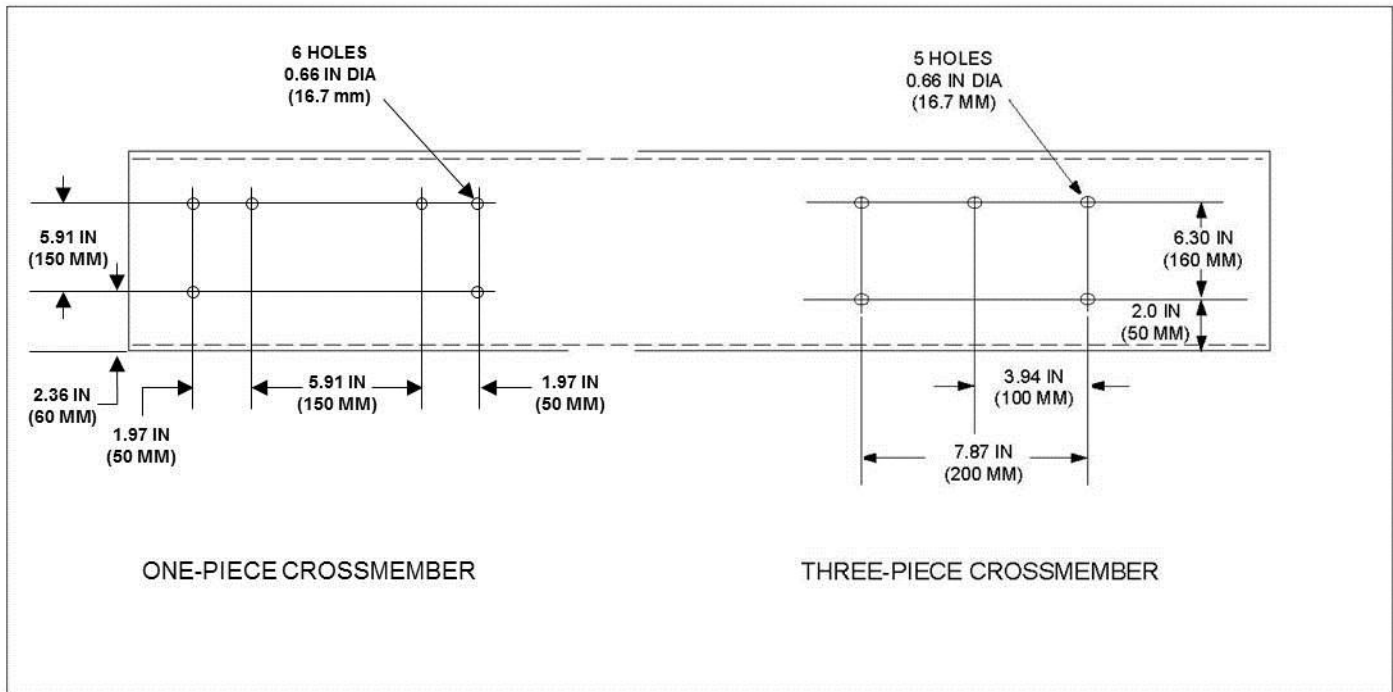
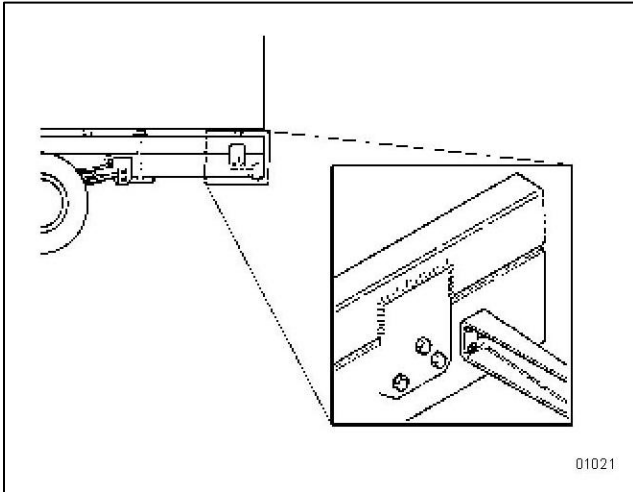
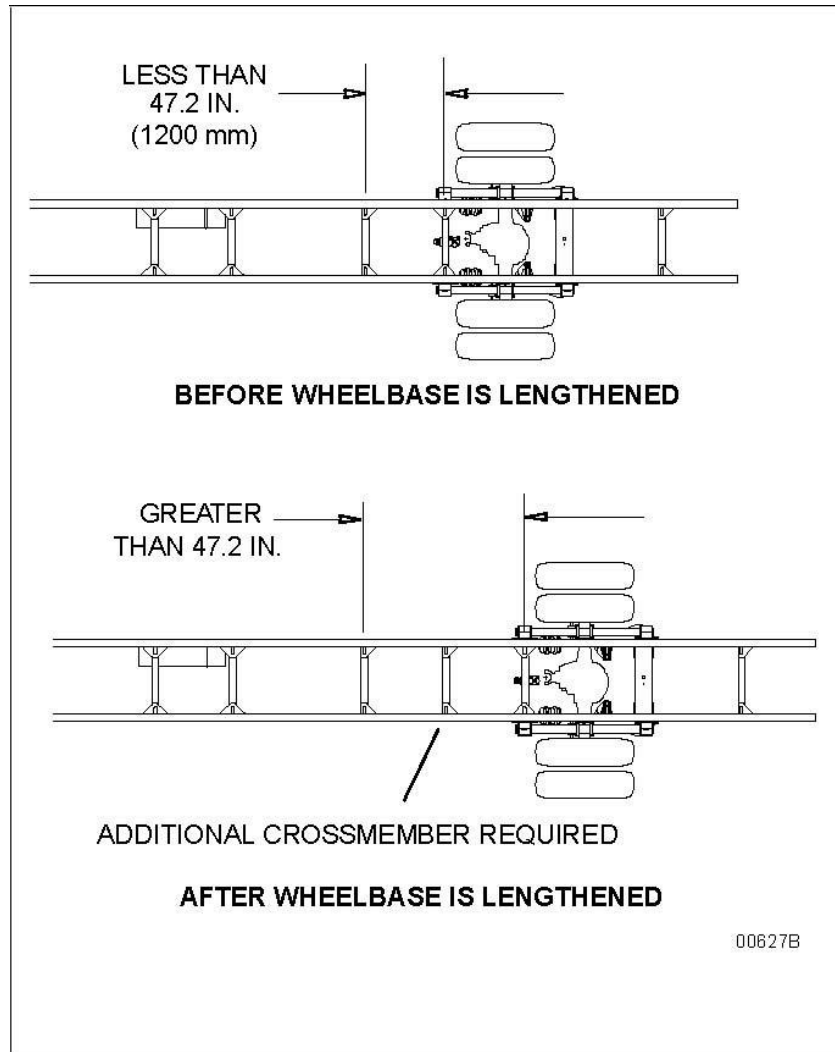

FIGURE 4-7. Crossmember Gusset Hole Patterns (Additional Holes Available in 50 mm Horizontal Increments)
FIGURE 4-11. Fishplate Bracket at Rear End of Body
FIGURE 5-2. Crossmember Spacing Requirements
When U-bolts are used to mount a body we recommend that the last body attachment be made with a “fishplate” bracket. See Figure 4-11. This provides a firm attaching point and helps prevent any relative fore or aft movement between the body and frame. For hole location guidelines, See Figure 4-7.
- The maximum allowable distance between the forward suspension crossmember and the next crossmember forward is 47.2 inches (1200 mm). If the distance exceeds 47.2 inches (1200 mm) after the wheelbase is lengthened, add a crossmember between them. See Figure 5-2. See Figure 4-7 on page 4-5 for crossmember hole patterns.